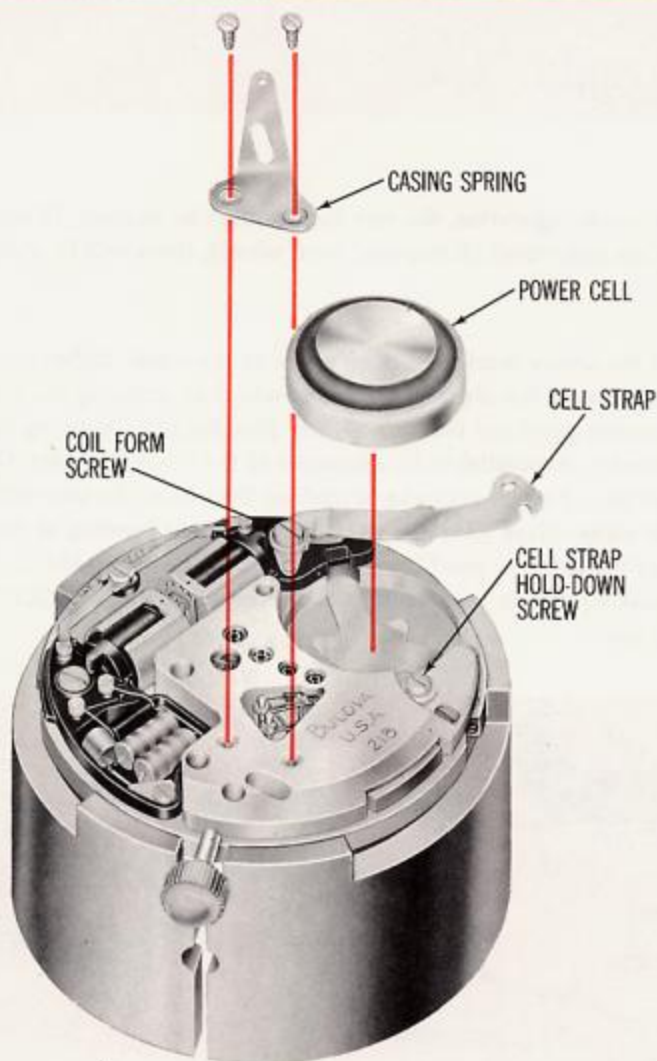

Fig. 14
1. Check that stem is **in** (running position). Remove casing spring (2 screws) and power cell (Fig. 14).